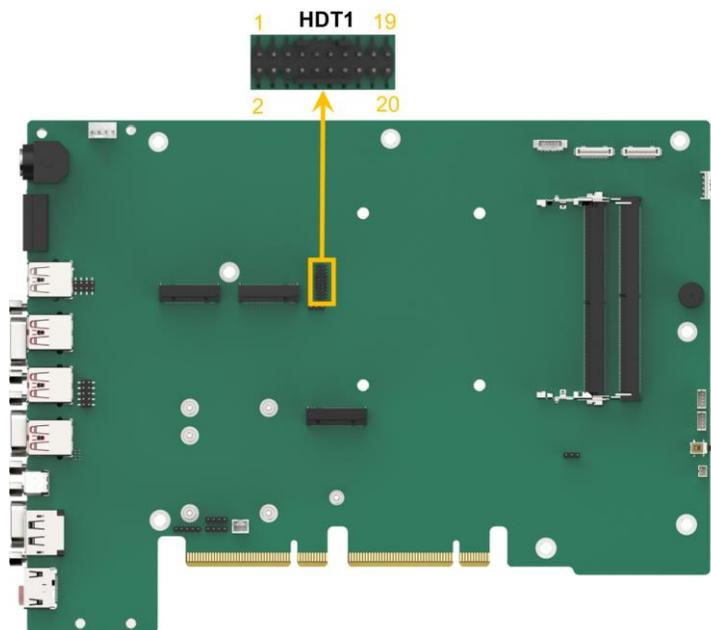

Figure 4-6: ARM JTAG Connector Location
- CN Location:** See Figure 4-6